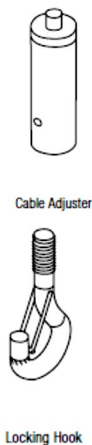

Figure 55 - Cable Adjuster and Locking Hook
5. Screw the finishing locking hooks into the bottom of the cable adjusters. See Figure 55.